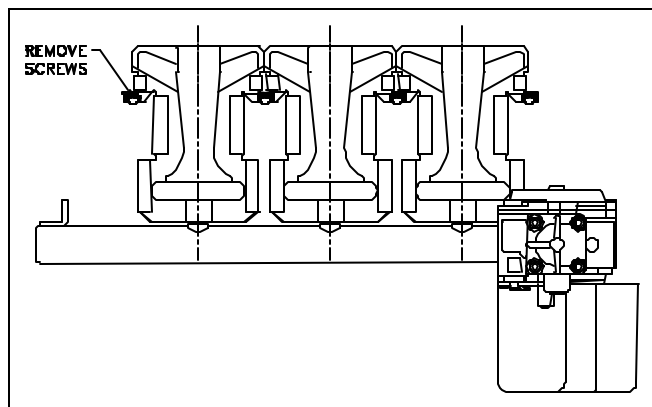

Figure 30. Main Burner Removal.
- Starting with burner farthest from gas control, remove burner screws and burners. Note how the burner mounting flange of burners farther from the gas control overlap the burner-mounting flange of the adjacent burner. See Figure 30.